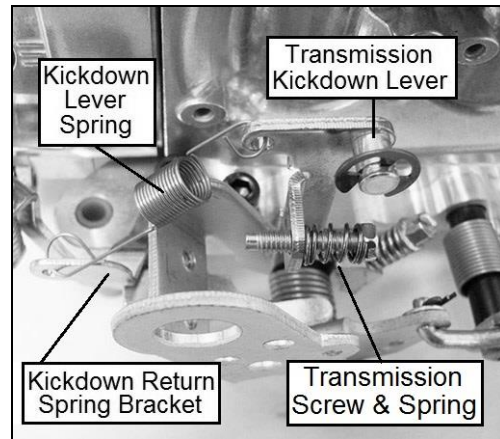

Figure 6
5. Install the transmission kickdown spring between the transmission kickdown lever and spring perch (**Figure 6**).